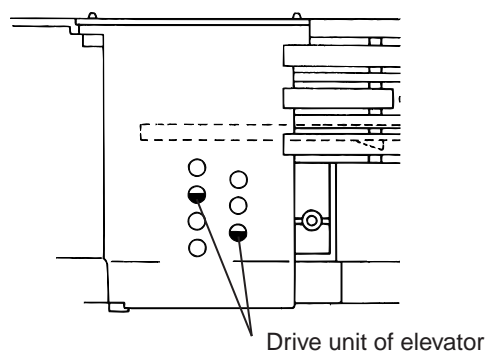
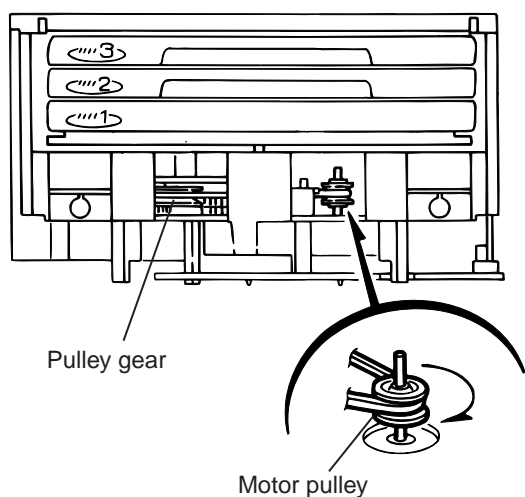

Fig.7
Fig.8
[Caution] In case the driver unit elevator is not at above position, set the elevator to the position as shown in Fig.7 by manually turning the pulley gear as shown in Fig.8.
13. Manually turn the motor pulley in the clockwise direction until the lifter unit stopper is lowered from the section "E" of CD tray assembly(See Fig.8).